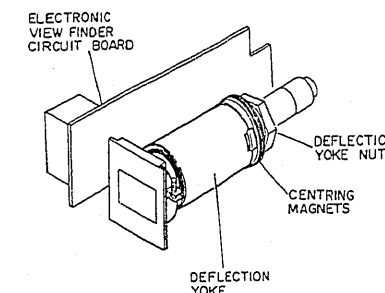

Fig. 4-11
##### 1) Deflection Yoke Position Adjustment (Fig. 4-11)
2) EVF Centring Adjustment (Fig. 4-11)